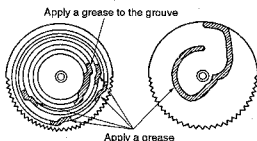

Fig. 8
- Grease the cam gear. (Fig.8)